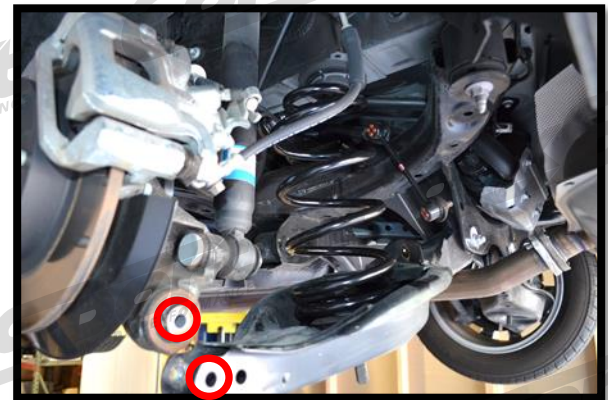

Figure 3c
- i) Line up the bolt holes at the end of the arm and the spindle. Shown with Red Circles in Figure 3c. Insert the 17mm bolt and tighten to 64-77ft lbs.